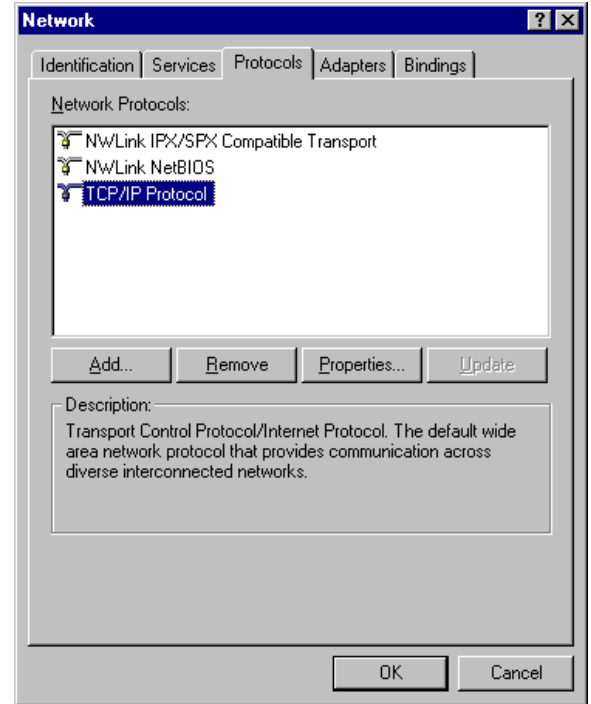

Figure 4
8. Enter an **IP Address** and **Subnet Mask** (see Figure 4). For a discussion of IP addressing, refer to the CTI Application Note *IP Addressing and the 2572*.